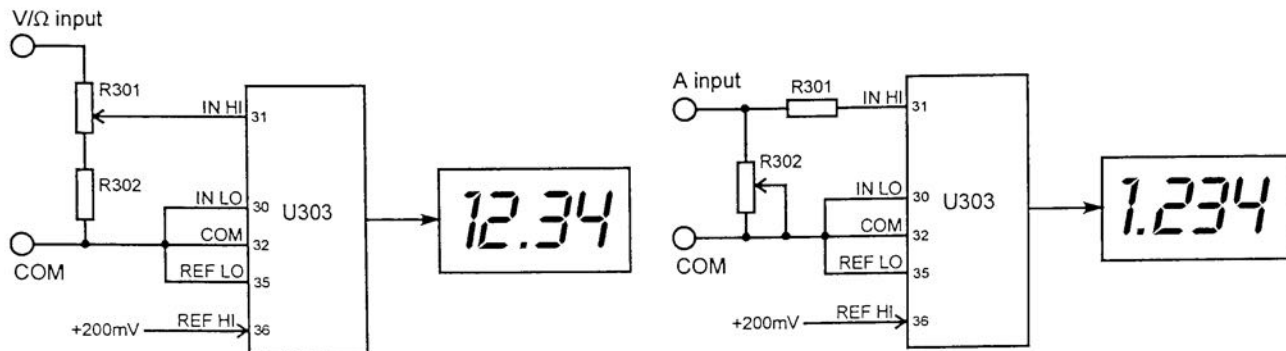

Fig 5.4 Voltage (left) and Current (right) Measurement.
5.7 Digital Meter. (See Fig 5.4)